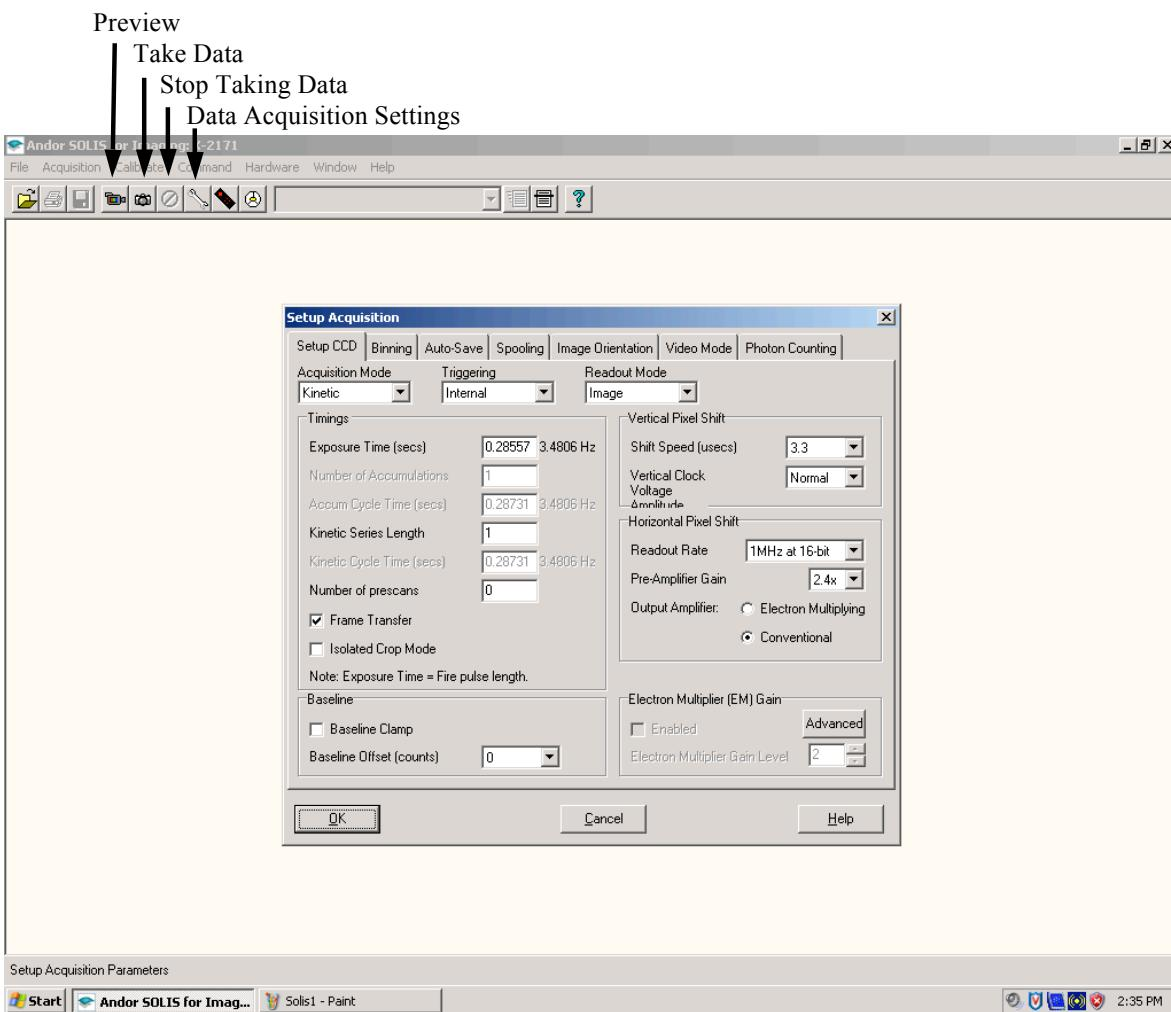

Figure 3. Data acquisition settings for typical operation of the POETS camera.
- (3) **To take data, the shutter must be open. CLICK *Hardware->Shutter Control*, and ensure that the Internal Shutter is set to permanently open.** For longer exposures, a manual shutter setting could be used; however, this mode is not tested.
- (4) **To set data-taking parameters, CLICK on the white wrench icon (denoted by an arrow in Fig. 3) or use the *Acquisition->Setup Acquisition* menu.** Typically, the configuration file starts with the settings shown in Fig. 3. The exposure time, number of exposures, and readout rate amplifier will be the selections that are usually altered between frames.
- a. “Triggering” should be **Internal** if you plan to take frames using the Solis software; **External Start** if you plan to take a data cube containing the number of frames listed in the Solis software and starting at a GPS trigger; **External** if you want the camera to take a data cube containing the number of frames specified in the Solis software with *each frame* being triggered by a GPS repeat signal. See (9) for sending GPS triggers.
- (5) **To preview data, (take and see frames without storing) CLICK on the video camera icon labeled “preview” in Fig. 3.** The stop button labeled in Fig. 3 will stop the preview.
- (6) **To take data, CLICK on the camera icon labeled “take data” in Fig. 3.** The stop button labeled in Fig. 3 will abort.